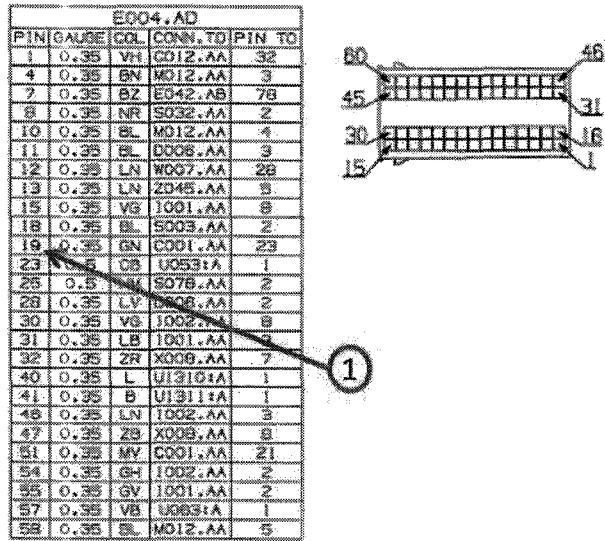

Fig. 15 BCM Connector C4 Pinout
- 20. Insert the YL/BK circuit terminal into cavity 19 of connector C4 (See Figure 15 & 16).